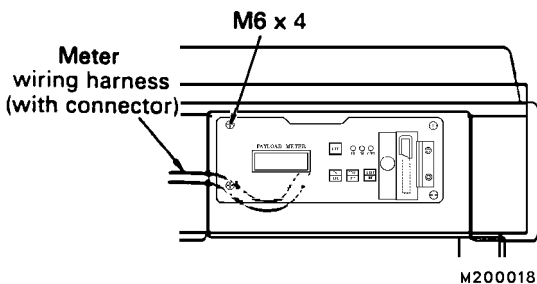

FIGURE 60-7. REMOVING PAYLOAD METER
3. Remove the four mounting screws holding the payload meter in position and then pull the payload meter out, away from the instrument panel (Figure 60-7).